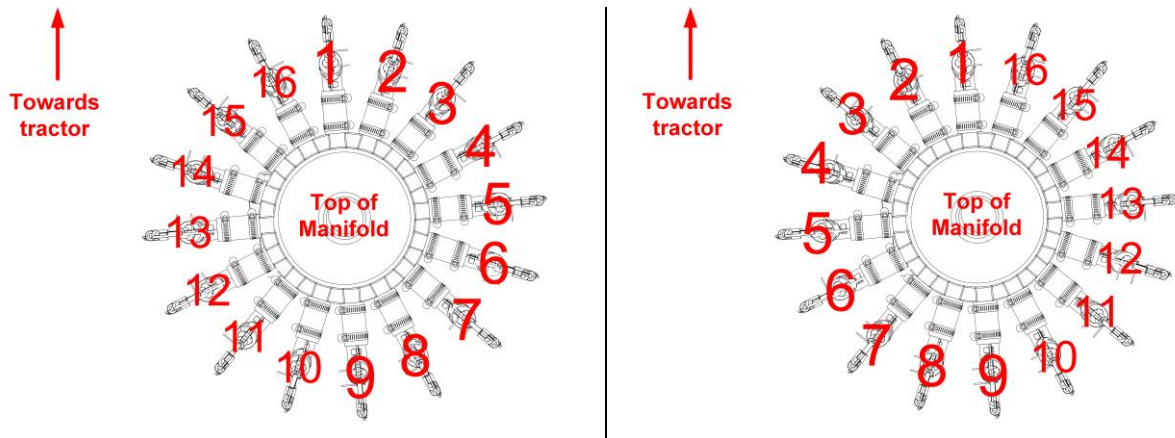

Figure 26: Default/clockwise order (left); counterclockwise order (right)
9. **Change run direction.** In manifold view, ports are displayed by default in clockwise order around the manifold, as shown in Figure 26. If you installed the sensors in counterclockwise order around the manifold, you can change the way the ports are displayed in the app. Next to Run Direction, tap the clockwise ↻ or counterclockwise ↺ symbol to change the run direction.